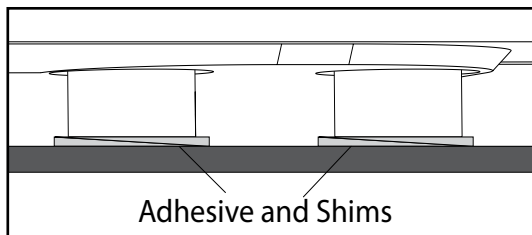

FIGURE 4. If needed, place shims under feet into adhesive to level base.
- d. There will be a small gap between flange and studs due to draft angle of base (Fig 4).